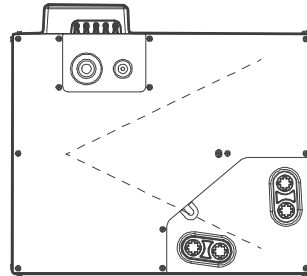

FIGURE 2
- Figure 2: Installed on the side of the coil. (Horizontal mounting)